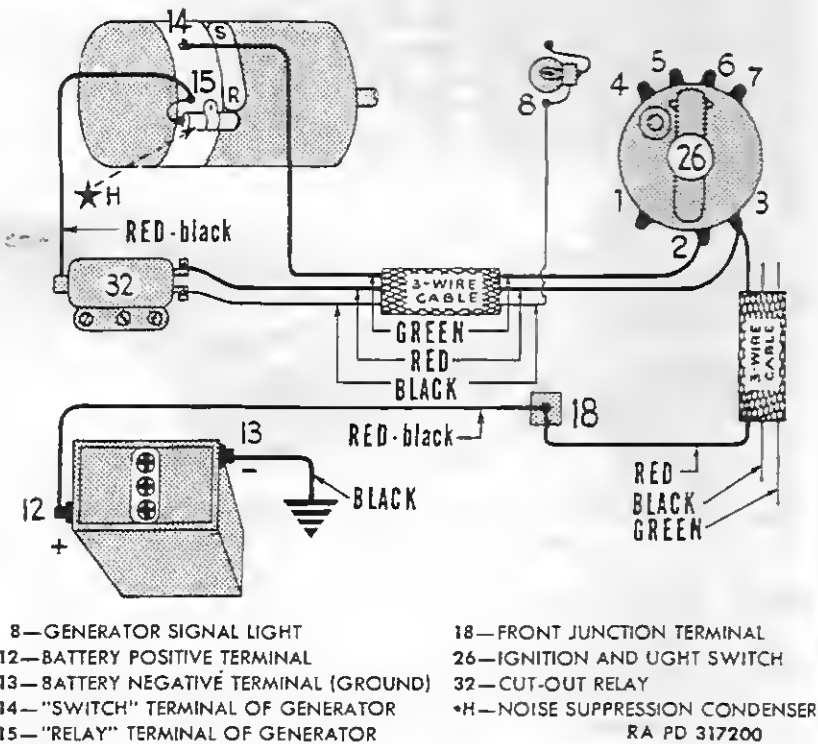

Figure 55—Generator to Battery Wiring Diagram
90. DESCRIPTION (fig. 55).
a. If battery is in good condition, cut-out relay is functioning, and wiring connections are made according to diagram (fig. 55), yet generator does not charge or charge rate is low, proceed to clean the commutator.
(1) Remove left footboard, sidebar, and clutch foot pedal assembly, following procedure outlined under paragraph 102 a (1) to (6), to permit generator cover removal.
(1) Pass generator drive gear end through gear case hole, lifting generator so that oil slinger clears intermediate timing gear. Turn generator in its cradle so that end holes line up with long mounting screws which pass through gear case cover. Tighten mounting screws securely.
(2) Install curved washer, lock washer, and nut on end of clamp strap; tighten nut securely.
(3) Connect red-black wire to generator terminal marked RE-LAY, and green wire to generator terminal marked SWITCH. Refer to wiring diagram (fig. 55).
(4) Operate engine and check generator for current output, as well as check for gear noise. If shimming under generator is proper, generator and timing gears will run quietly. If necessary, readjust shimming until gears operate quietly.
- (1) Mount relay on engine base with two screws and lock washers. Make sure that mounting is clean to make good electrical ground contact between relay and engine.
- (2) Reconnect the three wire terminals to relay terminal screws. Follow wiring diagram, figure 55.
- (3) Operate engine and observe action of relay, also action of instrument panel green signal light to indicate generator charge.